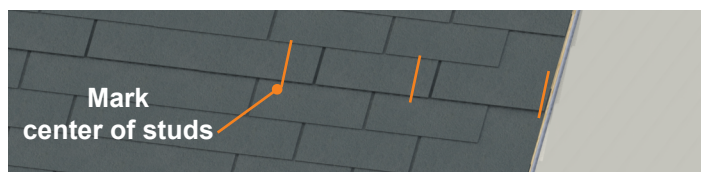

Fig.66
2. Using a stud finder or other method, locate and mark the centers of the rafters at the intended solar panel installation site (Fig. 66).